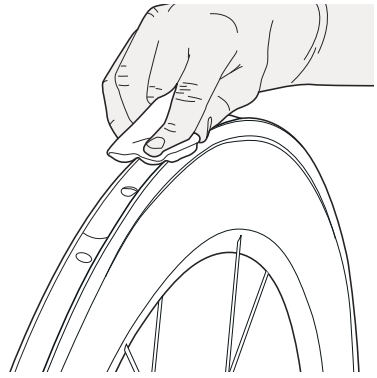

Figure 30. Wipe the sanded area of the rim with a clean rag and a small amount of acetone and prepare it for glue.
5. Apply a small amount of acetone to a clean rag (Figure 30).